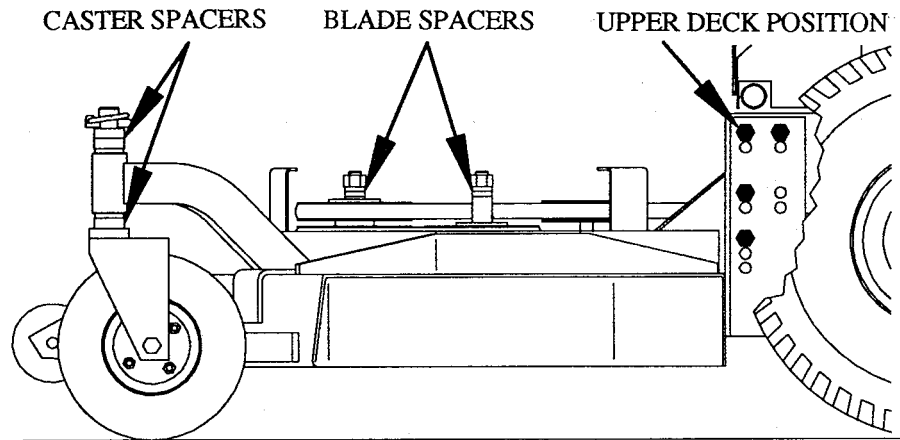

FIG. 1
1. The cutter deck mounts have two sets of holes, which allow for a great range of adjustment on cutting height. The lower holes are used for the higher settings, the upper holes for the lower settings. Refer to Fig. .1 on page 11 for the desired height of cut settings. Install the eight mounting bolts as shown in their appropriate holes but do not tighten at this time.